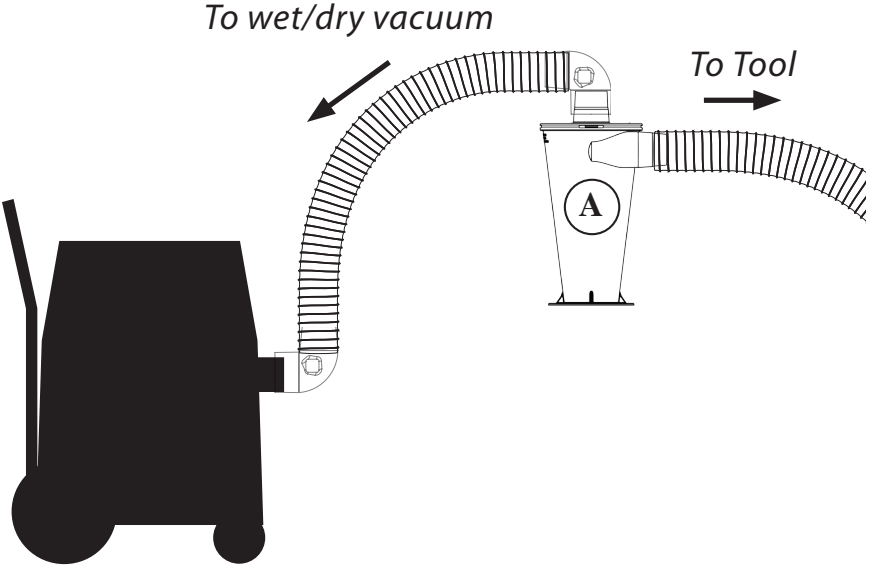

FIG. 5
- 5 Connect the Cyclone's (A) inlet (sideways facing port) to your dust producing tool with hose or ductwork. Connect the cyclone's outlet (upwards facing port) to your vacuum. [FIG. 5].